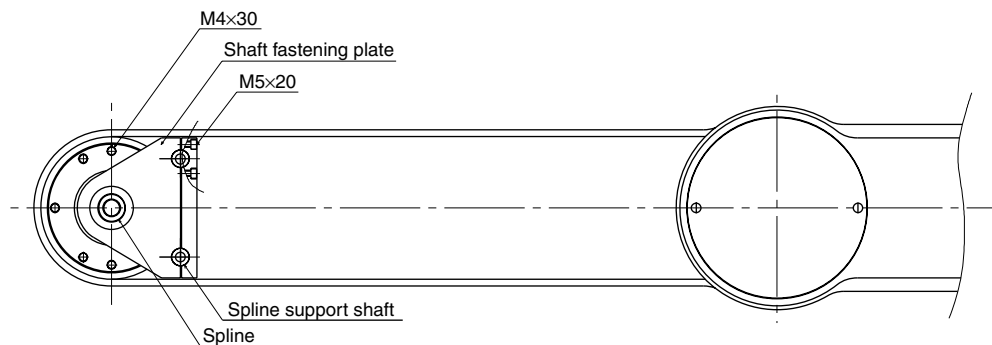

Fig. 5-18
- 6) Remove the bolts (M5×20L, 4 pieces) and then separate the spline support shaft (2 pieces) from the shaft fastening plate. (See Fig. 5-18.)
- 10) Remove the bolts (M4×30L, 8 pieces) on the underside of the Y-axis arm and remove the plate fastening the spline and the harmonic drive. (See Fig. 5-18.)
- 21) Fit a new O-ring into the O-ring groove on the fastening plate and also replace the edge seal with new one. Then, secure the fastening plate to the harmonic drive with the bolts (M4×30L, 8 pieces) coated with small amounts of "Screw Lock". (See Figs. 5-18 and 5-24.)
- 25) Install the spline support shafts (2 pieces) to the fastening plate, apply a small amount of "Screw Lock" to the bolts (M5×20L, 4 pieces) and tighten. (See Fig. 5-18.)